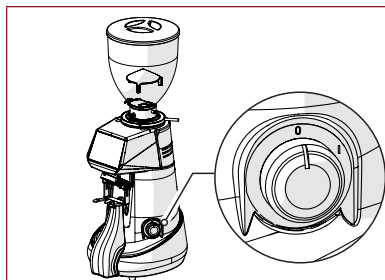
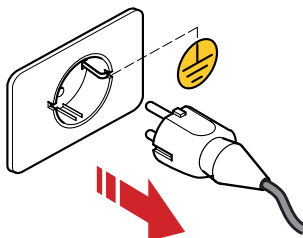

Fig. 13
Fig. 14
**ATTENTION!** Before carrying out any routine maintenance work on the grinder-doser, disconnect it from the power supply by turning the power switch (Fig. 13) to the “O” (OFF) position and disconnect the power plug from its socket (Fig. 14).